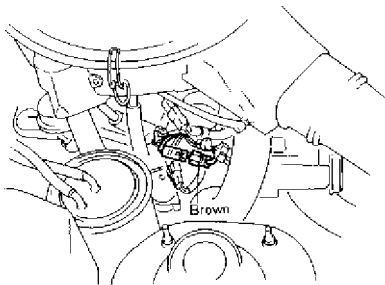

Fig. 4: Throttle Sensor testing
2. Disconnect the connector (brown) as shown in Fig. 4.